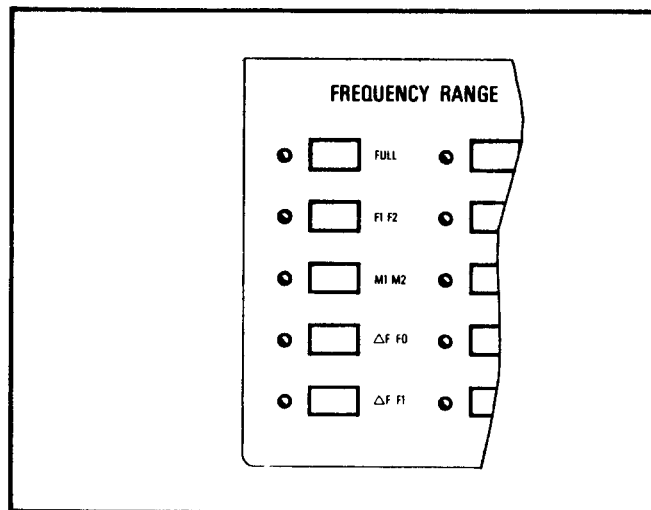

Figure 3-10. FULL, F1-F2, M1-M2,  $\Delta F$  F0,  $\Delta F$  F1 Pushbuttons
- a. FULL, F1-F2, M1-M2,  $\Delta F$  F0, and  $\Delta F$  F1 Pushbuttons (Figure 3-10). These pushbuttons select the sweep mode as follows: